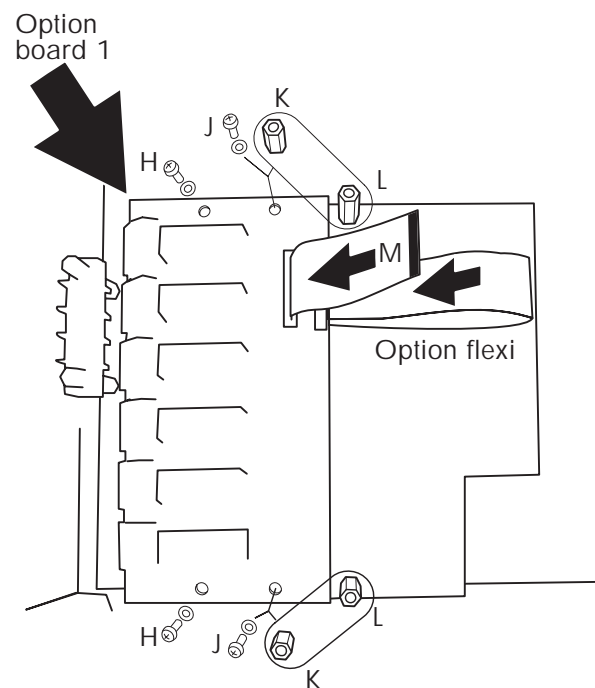

Figure 2.2.3 Fitting option board 1
3. Fit the option board, as shown in figure 2.2.3, and secure it with two M3 x 8 screws (H) and associated shakeproof washers.
6. If option board 2 is to be fitted, fit a 75mm flexi cable (CM027818U075 - 'M' in figure 2.2.3) into the vertical connector on option board 1 (blue side of the flexi towards the front (terminal block) edge of the board).